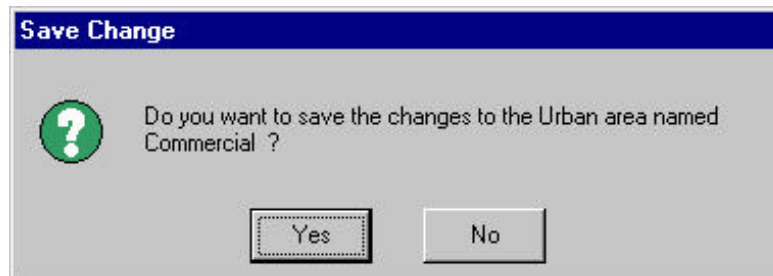

Figure 14.72
- e. A prompt box appears (Figure 14.72).